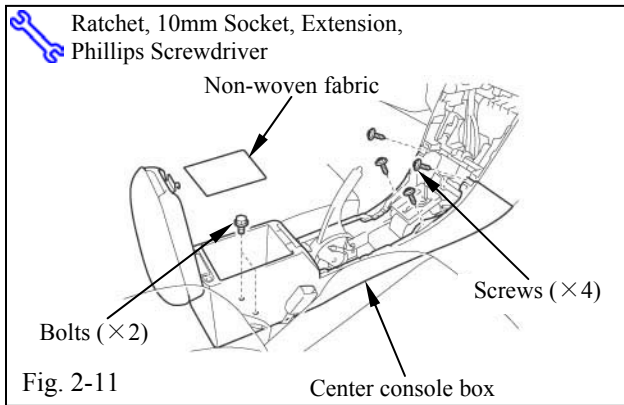

Fig. 2-11
- (1) Remove the non-woven fabric (Fig. 2-11).
- (2) Remove the 4 screws and 2 bolts (Fig. 2-11).